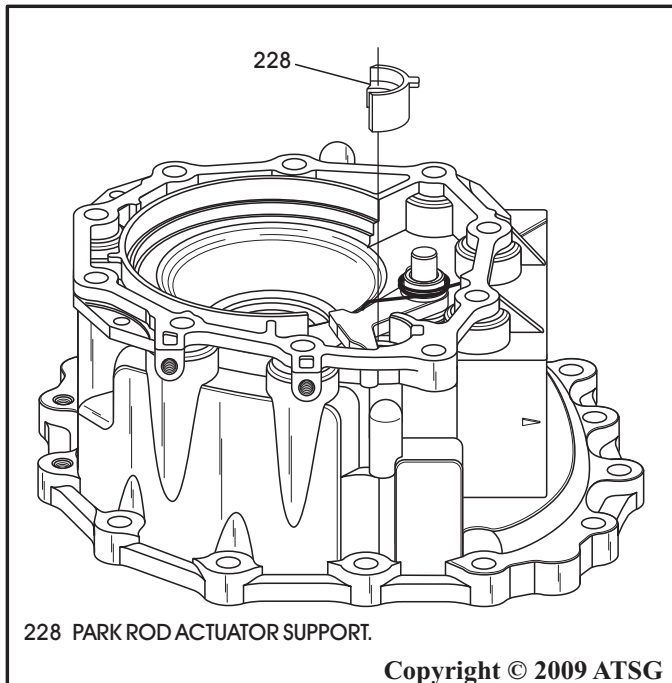

Figure 153
8. Rotate the park pawl clockwise against spring pressure and install the parking rod actuator support into the 4WD adapter housing, as shown in Figure 153.